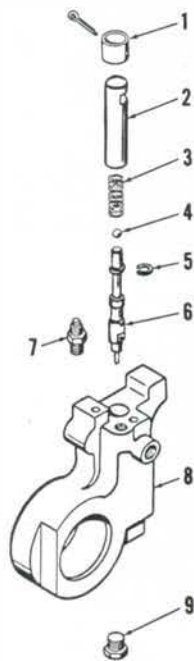

Fig. 168—Exploded view of independent pto control valve assembly.
Withdraw control valve spool assembly (Fig. 168) from housing (8). Unseat internal snap ring (5) to separate valve spool (6) from plunger (2). Note that spacer ball (4) is available in different diameters and is used to establish collapsed length of control valve assembly. Recommended valve length is 102.36-103.12 mm (4.030-4.060 inches) measured as shown at (L—Fig. 169).